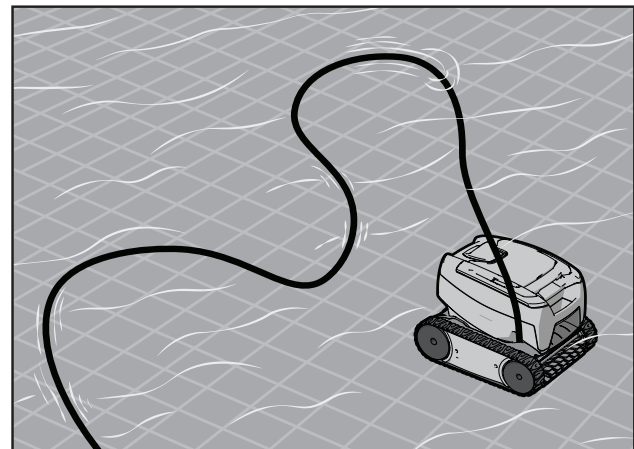

Figure 4. Spread Floating Cable Over the Pool
4. Spread the floating cable over the pool, making sure there are no kinks or coils in the cable (Figure 4). Spread all of the floating cable carefully in the pool, ensuring there are no kinks or coils.